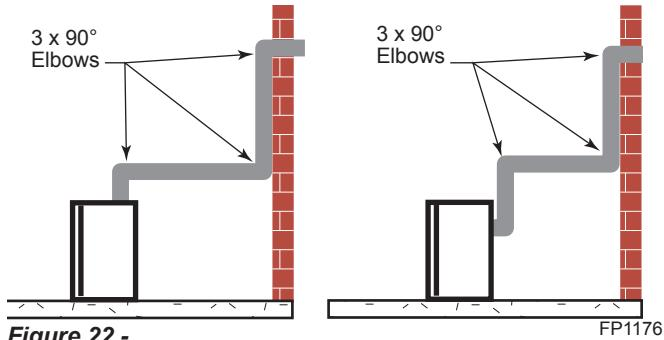
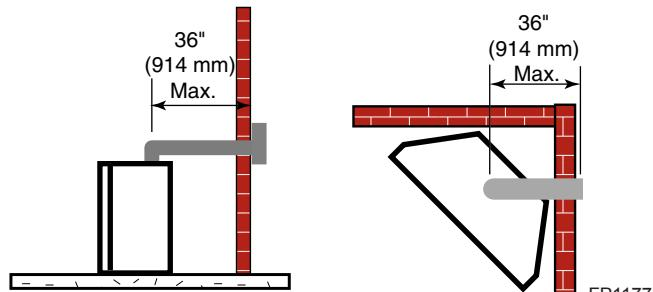

Figure 22 - Maximum three (3) 90° elbows per installation
Figure 23 - Maximum horizontal run with no rise
- The maximum number of 90° elbows per side wall installation is three (3). *Figure 22*
- If a 90° elbow is fitted directly on top of the fireplace flange the maximum horizontal vent run before the termination or a vertical rise is 36" (914 mm). *Figure 23*
- If a 90° elbow is used in the horizontal vent run (level height maintained) the horizontal vent length is reduced by 36" (914 mm). *Figures 23 & 24*. This does not apply if the 90° elbows are used to increase or redirect a vertical rise. *Figure 22*